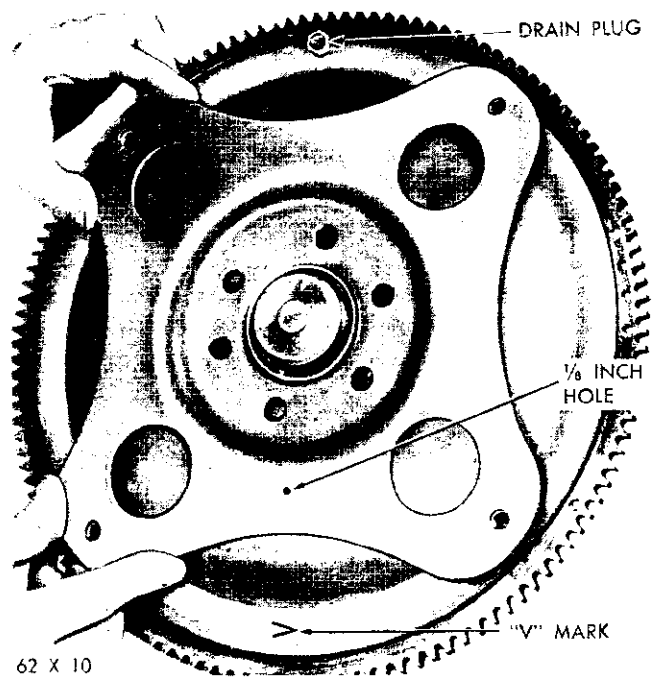

Fig. 47—Converter and Drive Plate Markings
(1) Inspect the converter drive plate for distortion or cracks and replace if necessary.
(2) Coat the converter hub hole in the crankshaft with wheel bearing grease. Place transmission and converter assembly on service jack and position assembly under vehicle for installation. Raise or tilt as necessary until the transmission is aligned with engine.
(3) Rotate the converter so mark on converter (made during removal) will align with mark on drive plate. The offset holes in the plate are located next to the $\frac{1}{8}$ inch hole in the inner circle of the plate. A stamped V mark identifies the offset hole in the converter front cover (Fig. 47). Carefully work the transmission assembly forward over the engine block dowels with the converter hub entering the crankshaft opening.
(4) After the transmission is in position, install converter housing bolts and tighten to 25-30 foot-pounds torque.
(5) Install and tighten the two lower drive plate to converter bolts to 270 inch-pounds torque.
(6) Install the starting motor and connect battery ground cable.
(7) Rotate the engine with Remote Control Switch and install the other two drive plate to converter bolts. Tighten bolts to 270 inch-pounds torque.
(8) Install the crossmember and tighten attaching bolts securely. Lower the transmission so the extension housing is aligned and rests on the insulator. Install bolts and tighten to 35 foot-pounds torque.
(9) Connect the parking brake cable to the parking brake.
(10) Connect the propeller shaft to the front flange. Tighten the flange nuts to 35 foot-pounds torque.